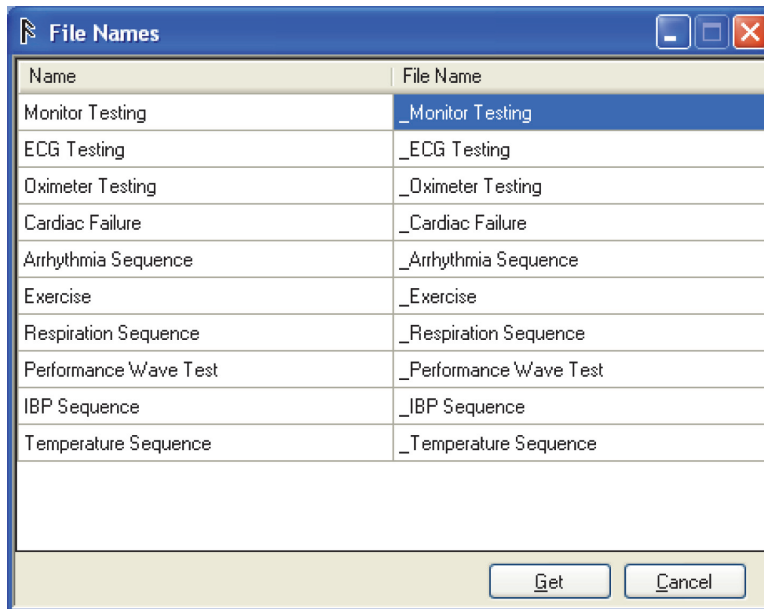

Figure 5-18. File Names Dialog with All Built-In Autosequences
2. Click the **Get From...** button. The names of all the checked autosequences are modified with an underline character before the first character of the name. The File Names dialog box shown in Figure 5-18 shows in the display.
The example in Figure 5-18 shows all the predefined autosequences. You can leave the name with the underline character or change it. You cannot use the names of the predefined autosequences.